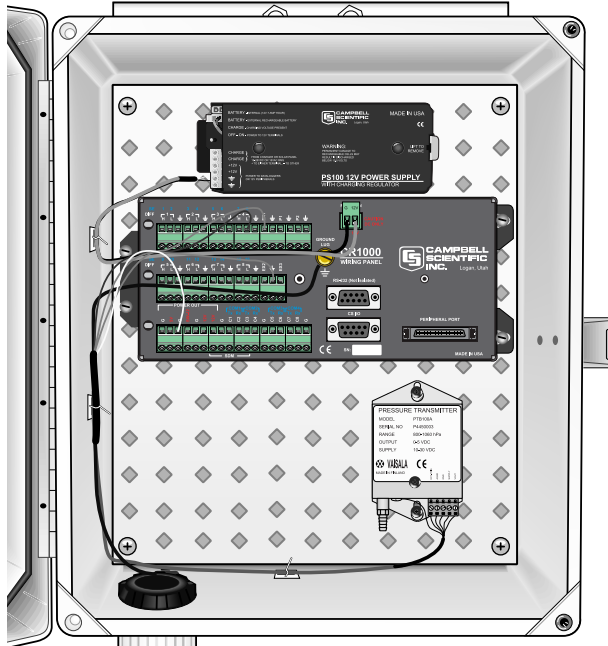

FIGURE 3.2-1. Routing and wiring sensor leads to the datalogger
1. After the sensors have been mounted, route the sensor leads through the entry hole in the bottom of the enclosure and to the datalogger. Secure the leads to the left side of the enclosure using cable ties and tabs (Figure 3.2-1). Any excess cable should be neatly coiled and secured to the tabs.